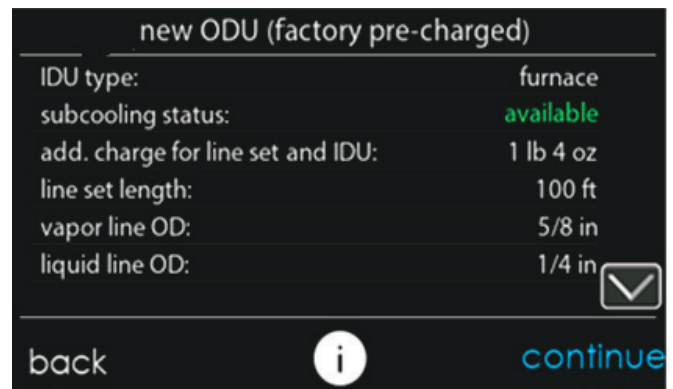
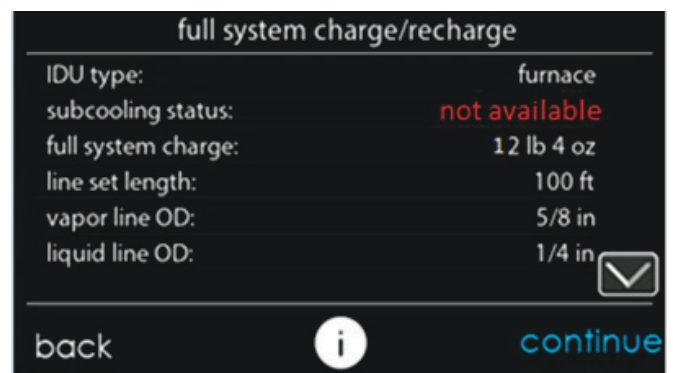

Fig. 15 – New ODU (factory pre-charged) - Subcooling Available
Fig. 16 – Full System Charge/Recharge - Subcooling Unavailable
- If indoor and outdoor conditions are in range, subcooling status will be green and available (Fig. 15). If conditions are outside the range, subcooling status will be red and unavailable and will require a partial weigh-in of charge (Fig. 16). Both "new ODU (factory pre-charged)" and "full system charge/recharge" modes will allow the user to move forward to start the system regardless of whether subcooling charging is available. Lineset configuration and climate zone / odu material type can be changed by selecting appropriate line if needed. For "new ODU (factory pre-charged)" record the ADDITIONAL charge amount listed. For "full system charge/recharge", record the FULL system charge amount listed. Press continue..